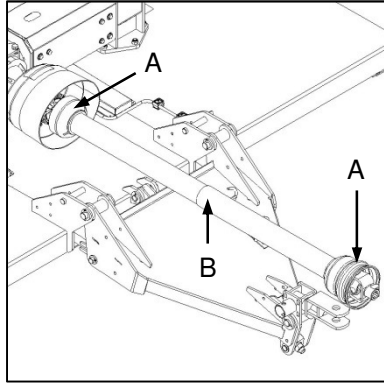

Fig. 12
- ✔ Apply grease to the universal joints (Fig. 12-A/13-A) and telescopic tubes (Fig. 12-B/13-B) of the main PTO driveshaft.
- ✔ Ghries die kruiskoppelings (Fig. 12-A/13-A) en teleskopiese buise (Fig. 12-B/13-B) van die hoofkragaftakkeras.